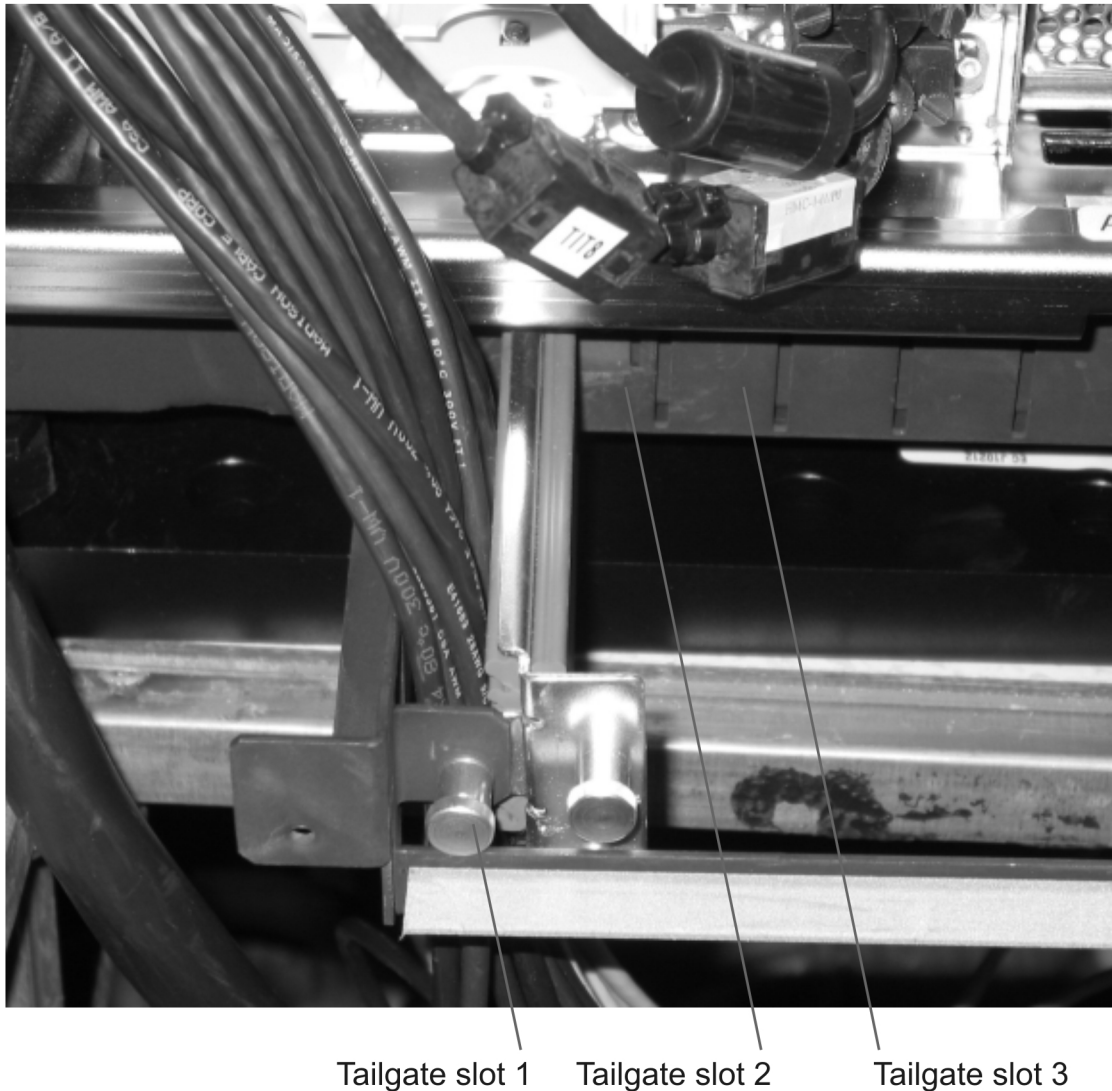

Figure 36. HMC and Ethernet cables clamped in tailgate
- | 3. Clamp the Management Server, HMC and Ethernet cables into the first tailgate slot using a tailgate insert (refer to Figure 36 on page 99)